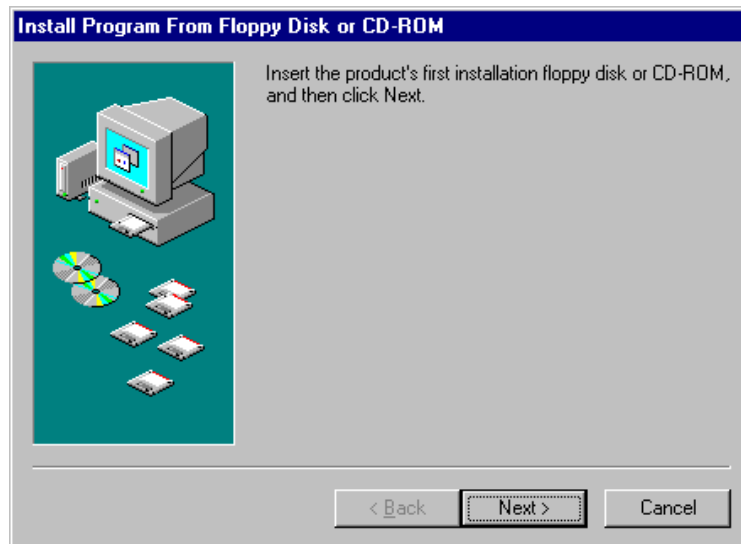
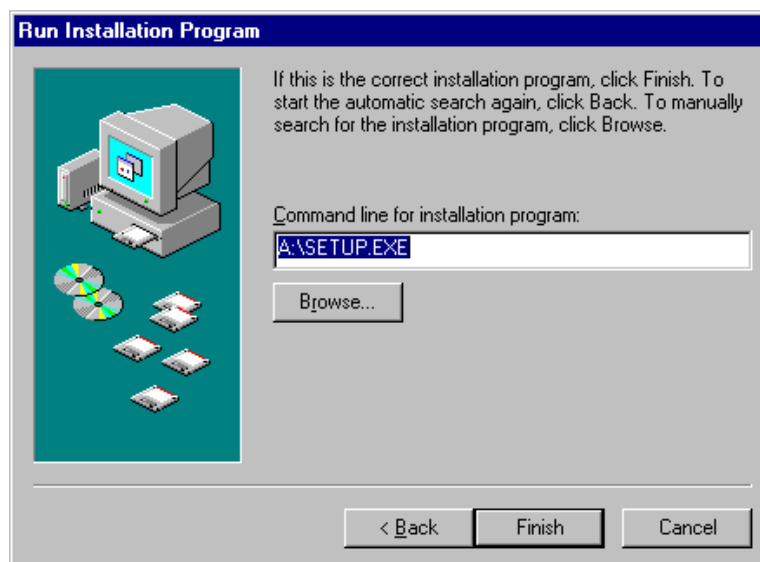

Fig. 9.4 [Install Program From Floppy Disk or CD-ROM]
Fig. 9.5 [Run Installation Program]
- (3) Select [Install/Uninstall], then click the <Install (I)> button. The window shown in Fig. 9.4 appears.
- (4) Insert the [SETUP Disk] disk into the floppy disk drive. Click the <Next> button in the window shown in Fig. 9.4. The window shown in Fig. 9.5 appears.